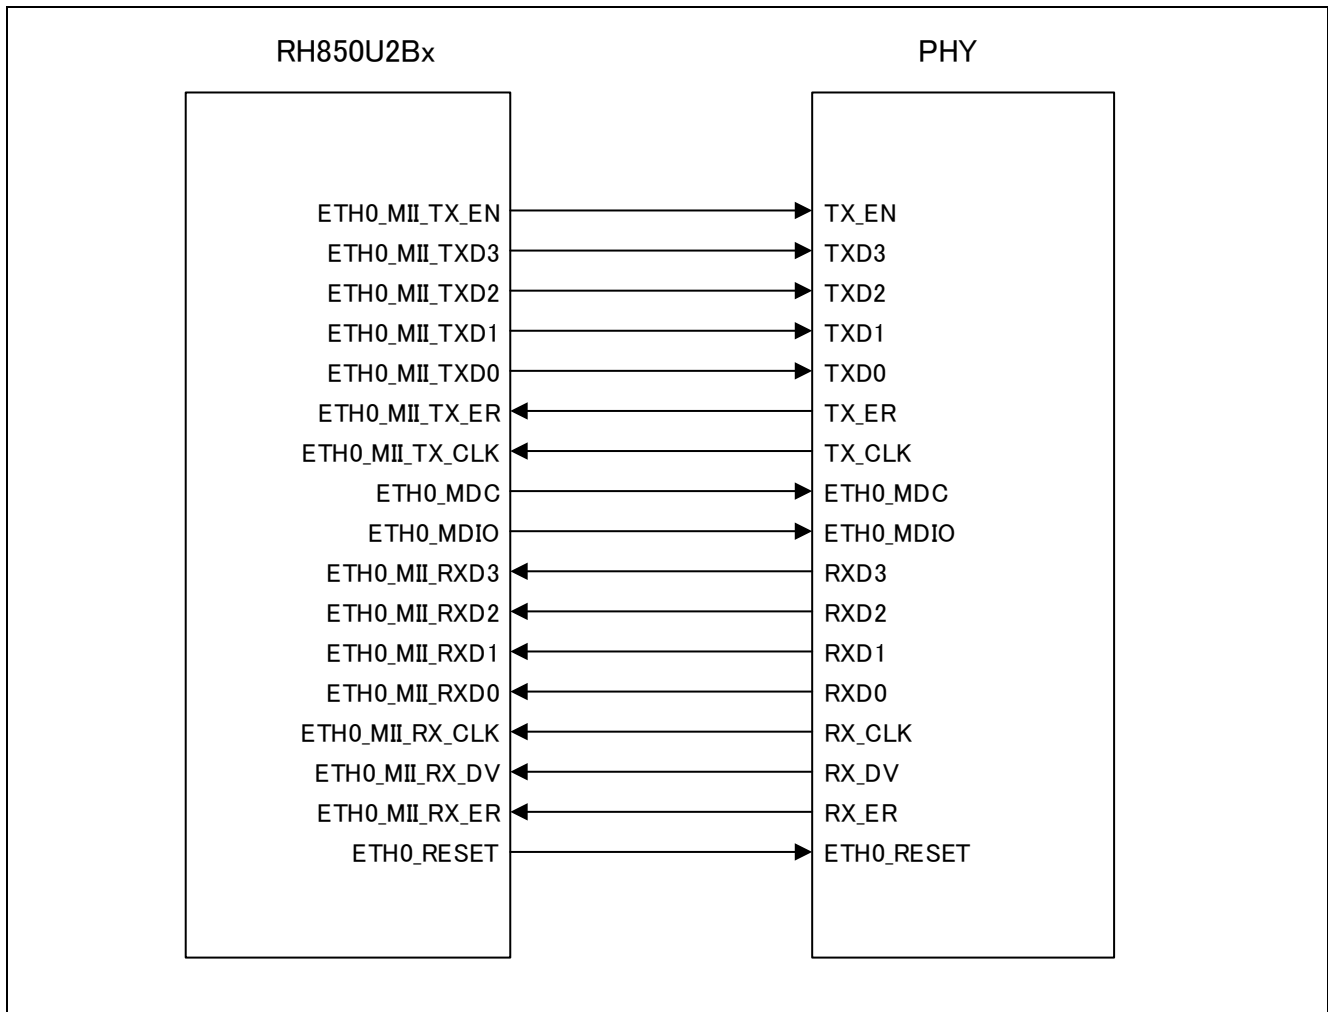

Figure 1-1 Connection Diagram of RH850/U2Bx and PHY
**Figure 1-1** shows the connection diagram with PHY.